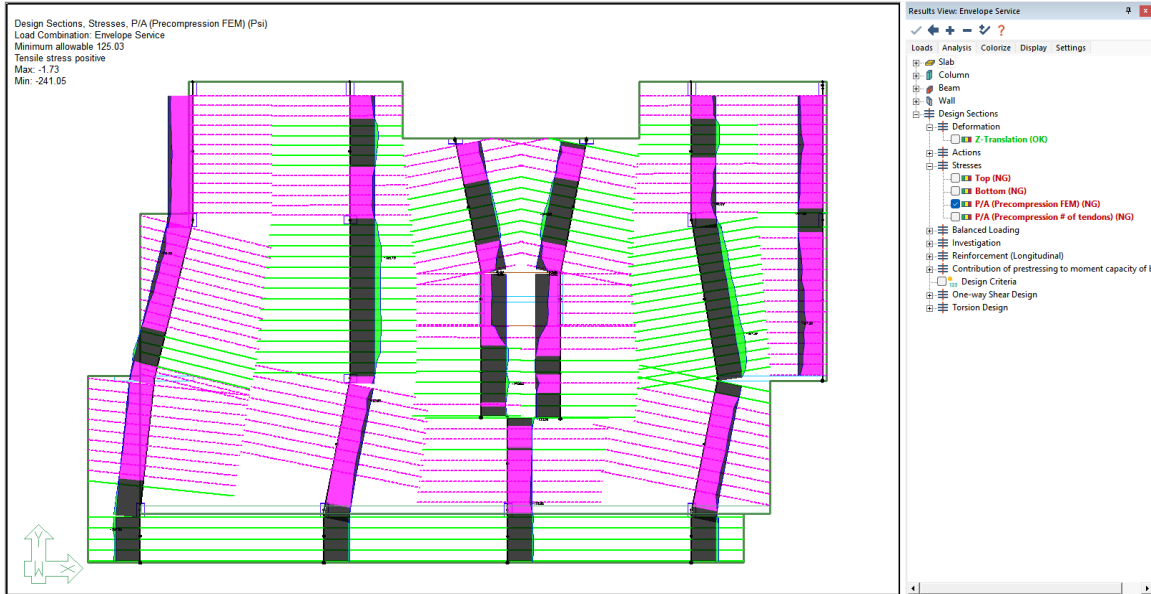

FIGURE 9-91
- Click the check box next to **P/A (Precompression FEM)**. The user should now see the design section results for precompression for the support lines in the Y-direction as shown in **FIGURE 9-91**.